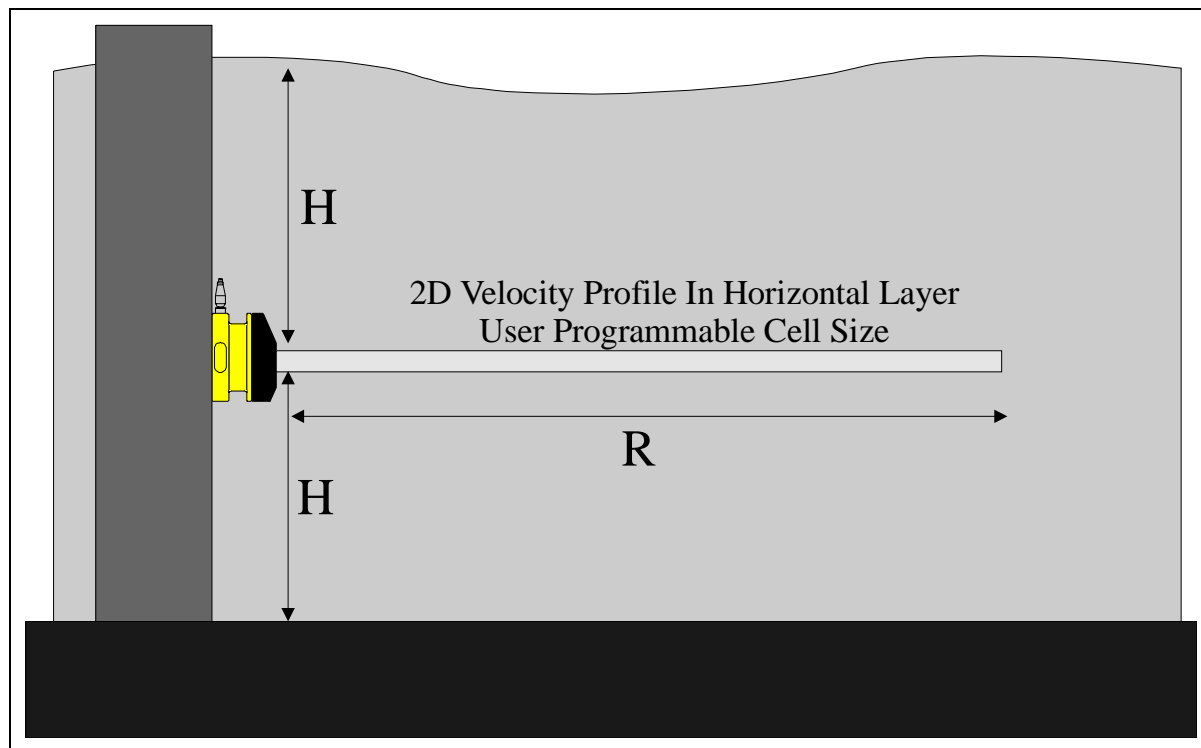

Figure 9 – ADP Horizontal Current Profiling
- This is expressed as the aspect ratio between profiling range and the distance to the nearest boundary (R / H as pictured in Figure 9).